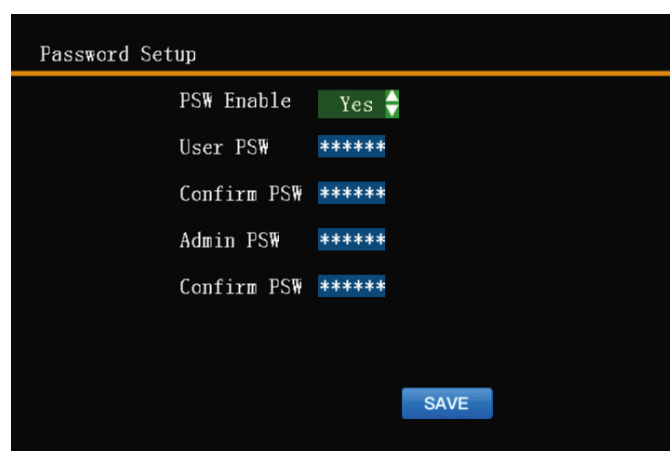

Figure 3-10
3.3-3 Password Setup (Figure 3-10)